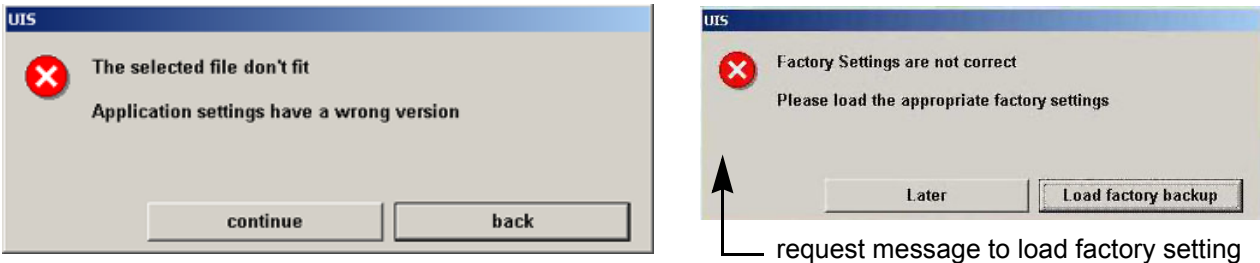

Figure 4-24 Wrong Version messages
- If the selected Backup file doesn't fit, a message box appears. see Figure 4-24
- If you select the CONTINUE key to proceed loading the unfit Application settings, a request message (Figure 4-24) to load the appropriate factory settings will appear with each restart of the Voluson® 730.